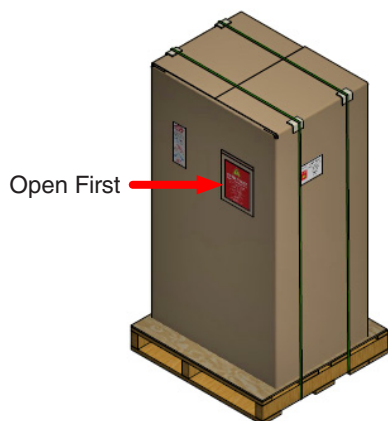

Figure 5a: This Crate has a Carton Banded to a Wooden Skid.
- Q-SUN Xe-2 testers are shipped in one of two types of crates (Figure 5a and Figure 5b).